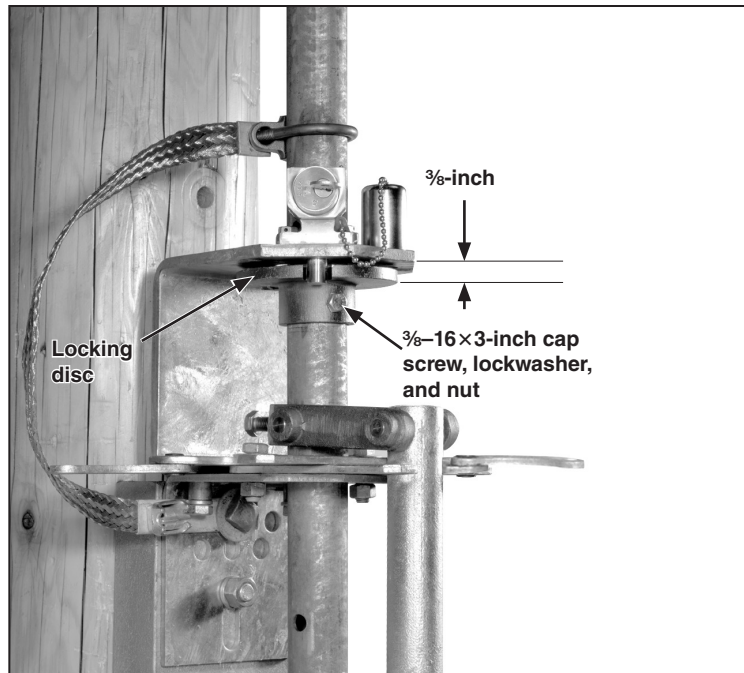

Figure 29. Attach the locking disc.
STEP 25. Hold the locking disc $\frac{3}{8}$ -inch below the interlock bracket and drill $\frac{7}{16}$ -inch diameter holes through the vertical operating-pipe section, using the holes in the locking disc collar as pilots. Attach the locking disc to the pipe using the $\frac{3}{8}$ -16 \times 3-inch cap screw, lockwasher, and nut furnished. See Figure 29.